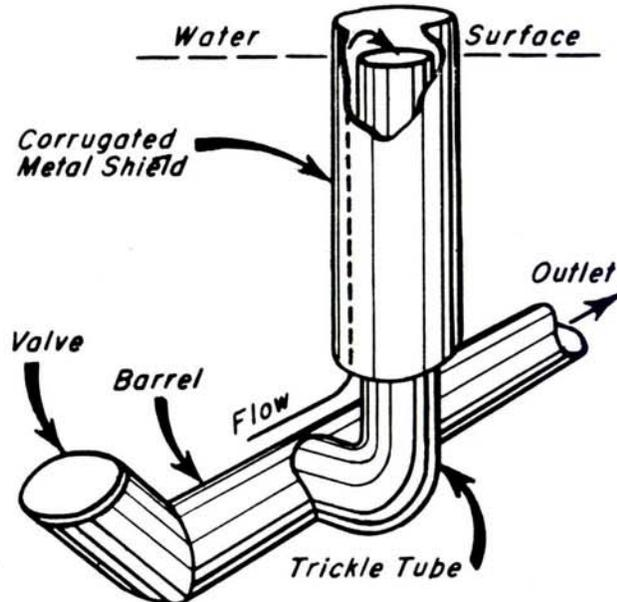

FIGURE 2 -
1. Eight inch minimum diameter vertical pipe draining into line through dam. This takes care of the small normal flow through the pond. Where impoundment has been stocked with trout, a second section of corrugated metal pipe is installed to partially enclose the trickle tube (Figure 2.)